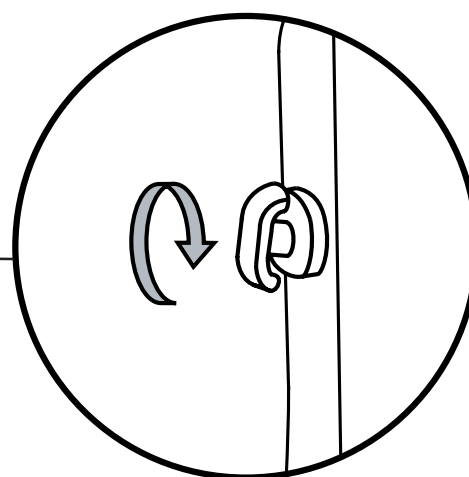

Fig. 4A
7. Screw the T-Anchor unto the weld stud using light pressure to get threads started. Once started, you should pull out lightly while tightening. Ensure T-Anchor is in the up/down position when tight. (Fig. 4A)